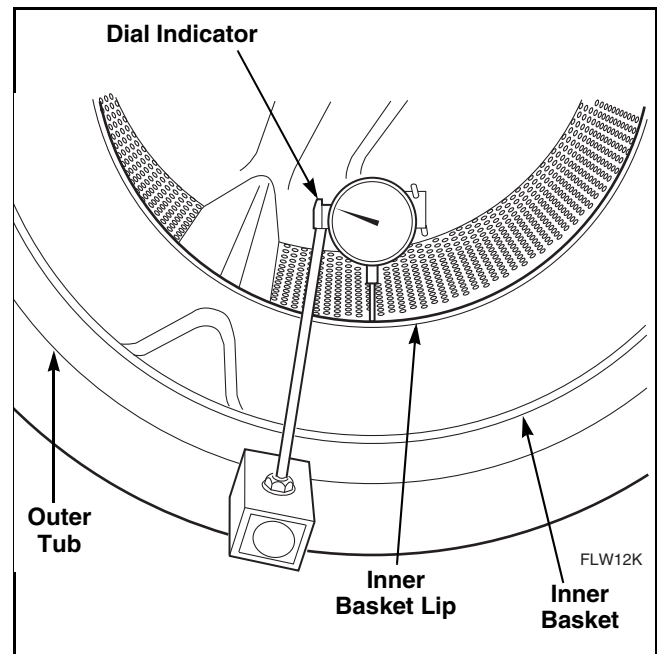

Figure 71
- Check for concentricity/roundness of assembly. Use a dial indicator to check that concentricity at the inside edge of inner basket lip is a maximum of .05 inch TIR (Total Indicator Runout). Refer to *Figure 71*. If concentricity is not within .05 inch, remove assembly from washer and adjust location of trunnion. Repeat until concentricity is within .05 inch.